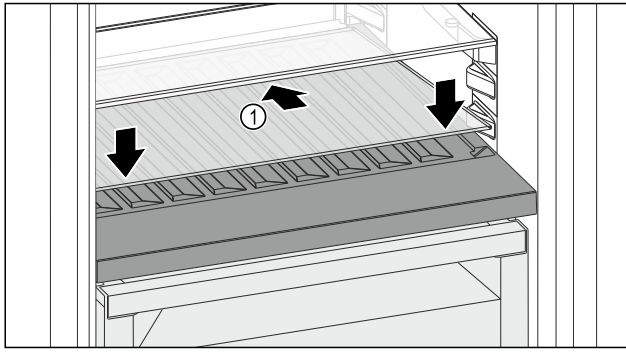

Fig. 138
- ▶ Place the glass shelf Fig. 138 (1) at an angle, sloping it downwards and backwards.
- ▶ Lower the glass shelf Fig. 138 (1) at the front.